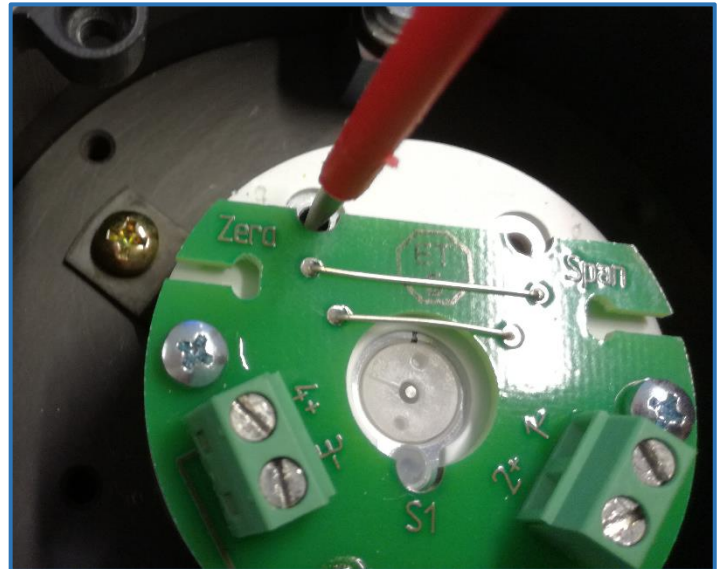

Figure 3 – Adjusting the Zero potentiometer to get a RT-2 output of 5,78 mA.
2. With the rudder full port side (35°), adjust on the *zero* potentiometer till current measurement on amp-meter is 5,78 mA as in figure 3.